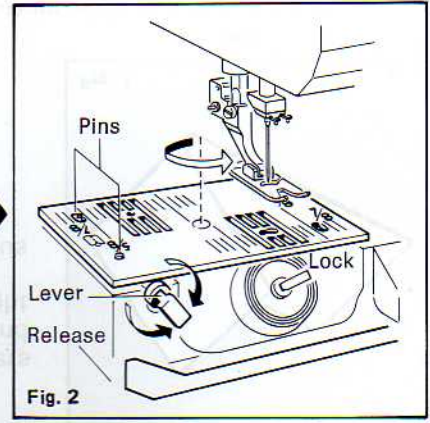

Fig. 2
Your machine is equipped with a special needle plate that can be rotated depending upon whether you are straight or zigzag stitching. To do this: Open bobbin area cover (22) and turn the flat lever (25) counter clockwise as indicated in Fig. 2. Lift needle plate and rotate 180°. Check that small lateral holes are above the small pins protruding from the machine. Push needle plate down firmly. Turn flat lever (25) clockwise to lock in position.